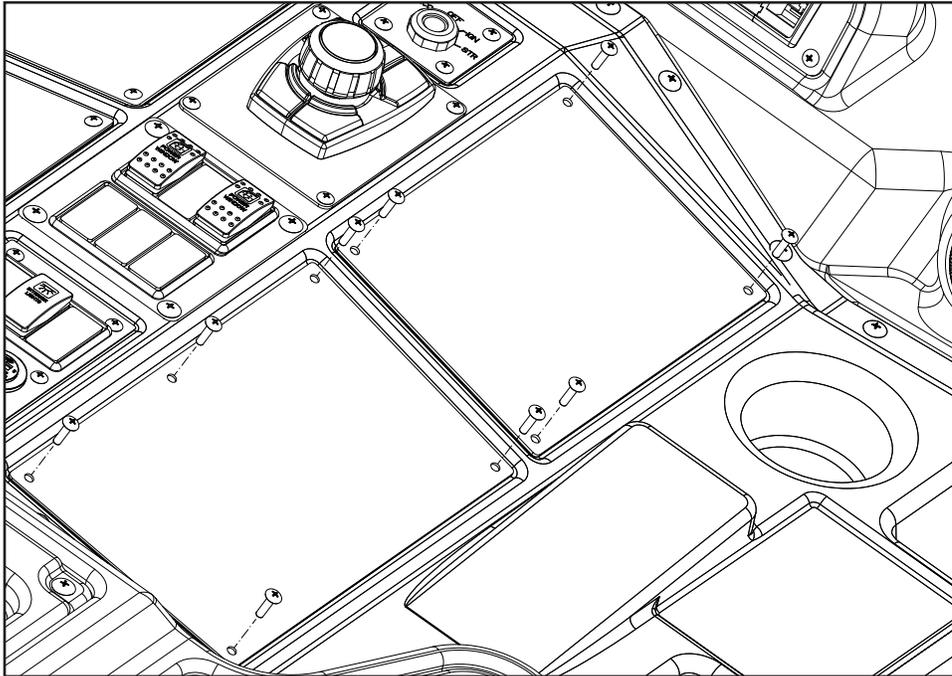

Figure 1
3. From the right side of the cabs interior, locate the access panels (see *Figure 1*).
4. Remove the 9 screws and two access panels and set aside for reinstallation (see *Figure 1*).